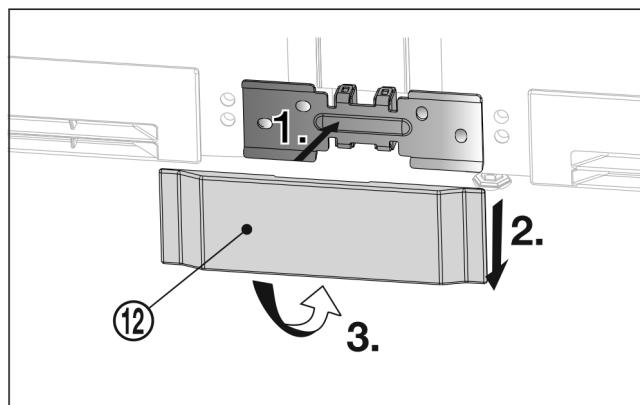

Fig. 32
- ▶ Place the bottom cover *Fig. 32 (12)* onto the bracket from the front *Fig. 32 (1)*, slide it down *Fig. 32 (2)* and snap it in at the bottom *Fig. 32 (3)*.